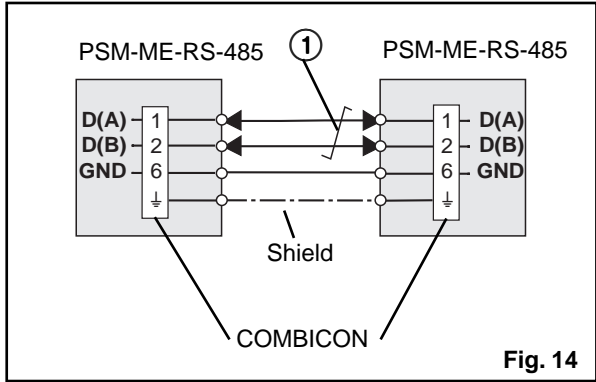

Fig. 14
- To couple two RS-485 interfaces, connect the connections acc. to fig. 14. (Ⓛ = twisted pair) GND connection is recommended, but is not essential.